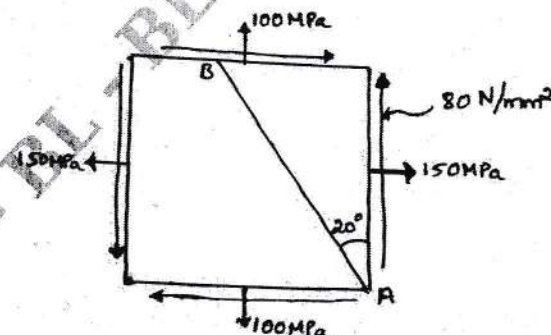

Fig.Q3(c)
- c. The stresses acting at a point in a two dimensional system is shown in Fig.Q3(c). Determine the principal stresses and planes, maximum shear stress and planes normal and shear stress on plane AB.